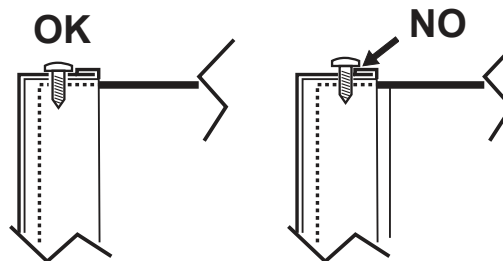

fig. 8 - upper screws mounting
3. Proceed in reverse order to reassemble the front panel. Make sure that it is correctly attached to the upper fixing and completely resting on the side panels. The head of the screw "A", once tightened, must not be underneath the lower bending stop (see "fig. 8 - upper screws mounting").